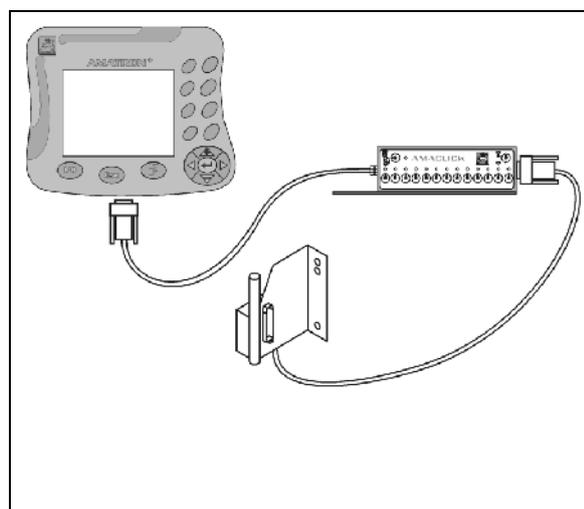

Fig. 134
- Without multi-function stick according to Fig. 134.